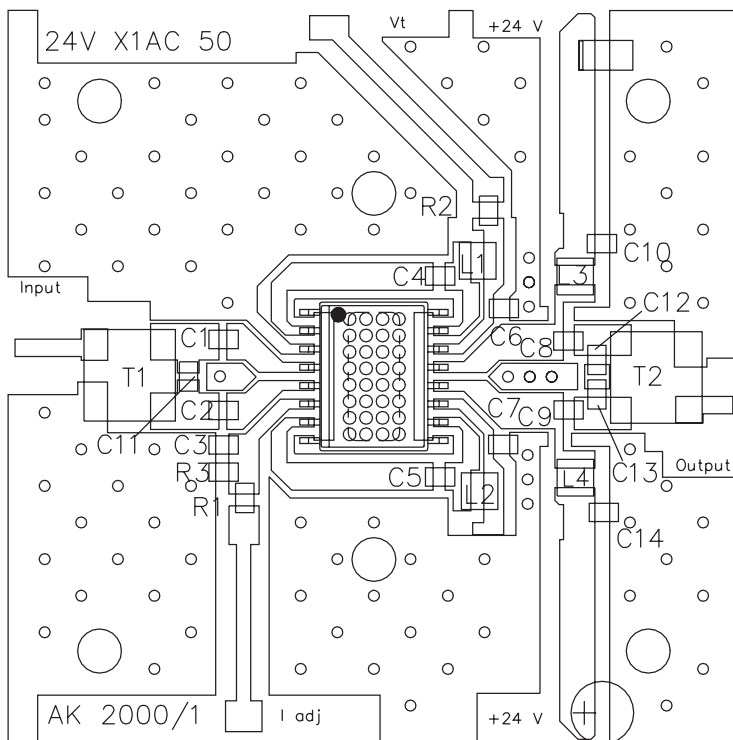

Figure 13: Evaluation Board Layout
Notes:*(1) Measured with baluns on the input and output of the device.**(2) Parts measured with 77 channels, +56 dBmV power, 13.5 dB tilt at 870 MHz.**(3) Parts measured with 110 channels, +52 dBmV power, 13.5 dB tilt at 870 MHz.**4. All specifications as measured on Evaluation Board (see Figures 13 & 14).*